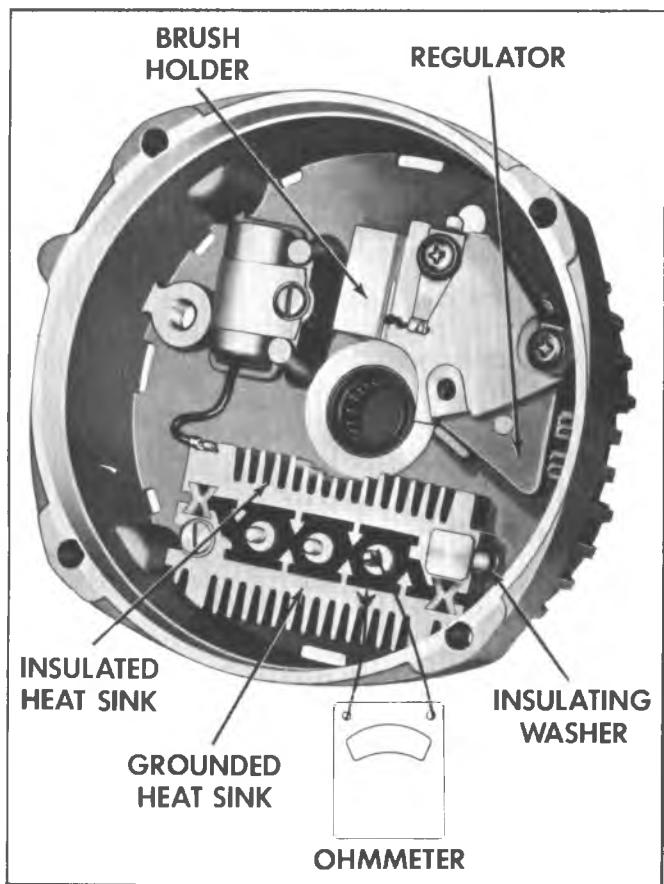

Fig. 6C-Rectifier Bridge Checks
- Remove retaining screw and capacitor from end of frame (fig. 6C).
Rectifier Bridge Check (fig. 6C)